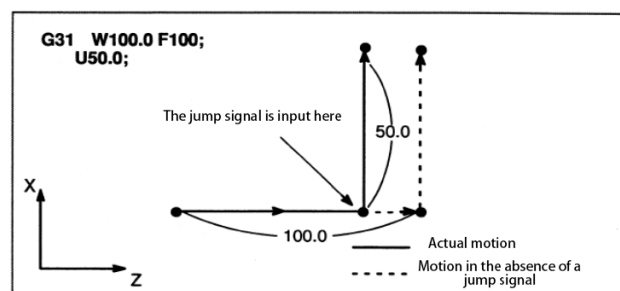

Figure 3-13
- 8) The next segment of the G31 is incremental coordinate programming, see Figure 3-13